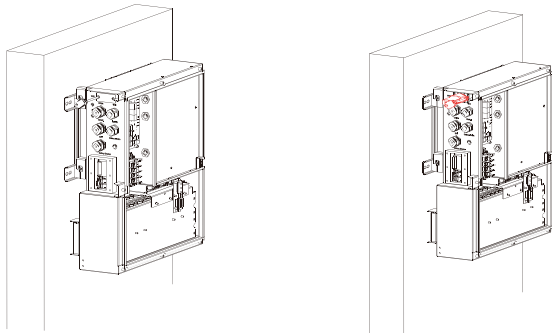

Figure 2.16 Install WiFi Module
**Step 11** Install WiFi module, as shown in Figure 2.16.
**NOTE:** If using WiFi module, open the cover plate of the side WiFi module, insert the WiFi module into the terminal port and then fix it with screws by using T20 double offset ring spanner, as shown in Figure 2.16. The suggested torque is 1.6 N.m±10%